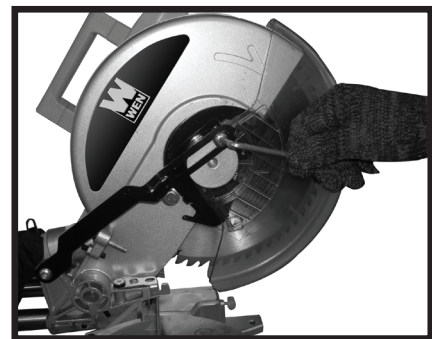

Figure 3
4. Remove the Safety Screw. (See Figure 3.)